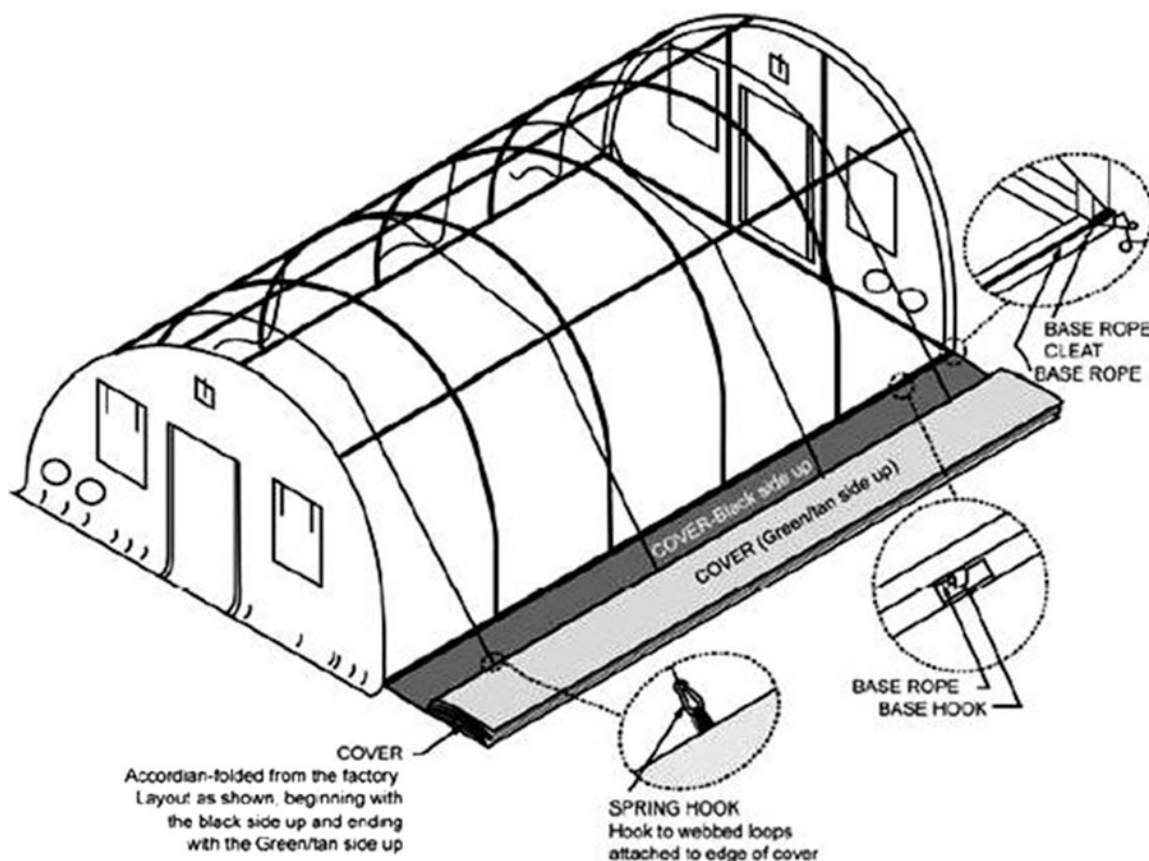

Figure 2-19. Main cover installation.
1. Lay the cover next to the shelter so that when you pull it over the shelter, the black side faces the inside (fig. 2-19).